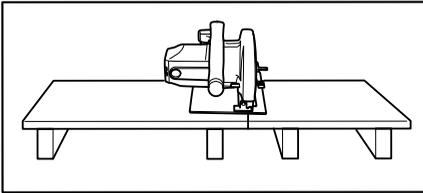

Fig. 1
9. Support Large Panels (Fig. 1 & 2). Large panels must be supported as shown in Fig. 1 to minimize the risk of blade pinching and kickback.
11. Guard Against Kickback. (Fig. 1 & 3) Kickback occurs when the saw stalls rapidly and is driven back towards the operator. Release switch immediately if blade binds or saw stalls. Keep blades sharp. Support large panels as shown in Fig. 1. Use fence or straight edge guide when ripping. Don't force tool. Stay alert-exercise control. Don't remove saw from work during a cut while the blade is moving. **NEVER place your hand or fingers behind the saw. If kickback occurs, the saw could easily jump backwards over your hand, possibly causing severe injury.**